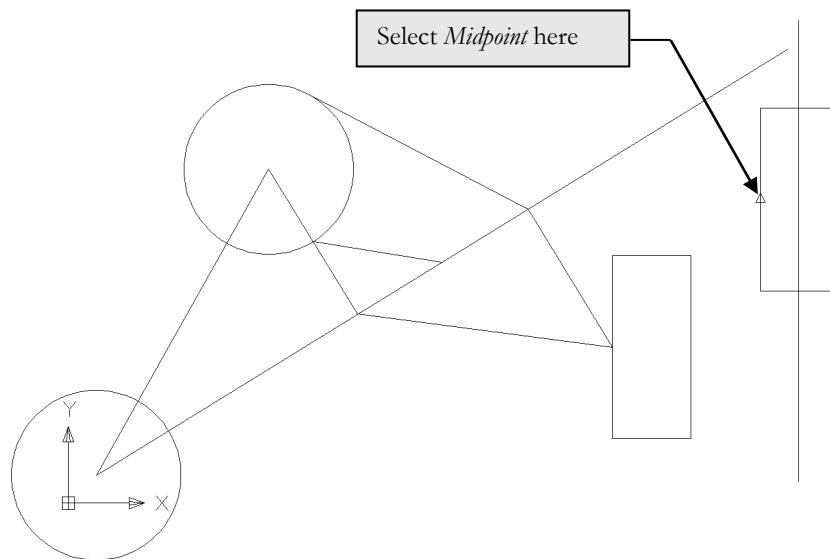

FIGURE 2-3.6 Rotate command. First Step - Select *Midpoint* of left vertical line.
17. Pick the *Midpoint* of the vertical line on the left side of the rectangle (Figure 2-3.6).